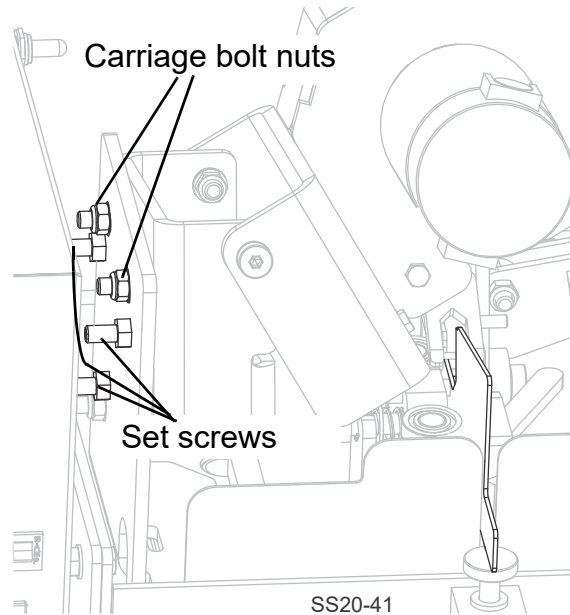

FIG. 4-3
6. If the motor and hosing does not align properly, then loosen the two upper carriage bolt nuts where the motor housing bracket attaches to the base. See fig. 4-3.